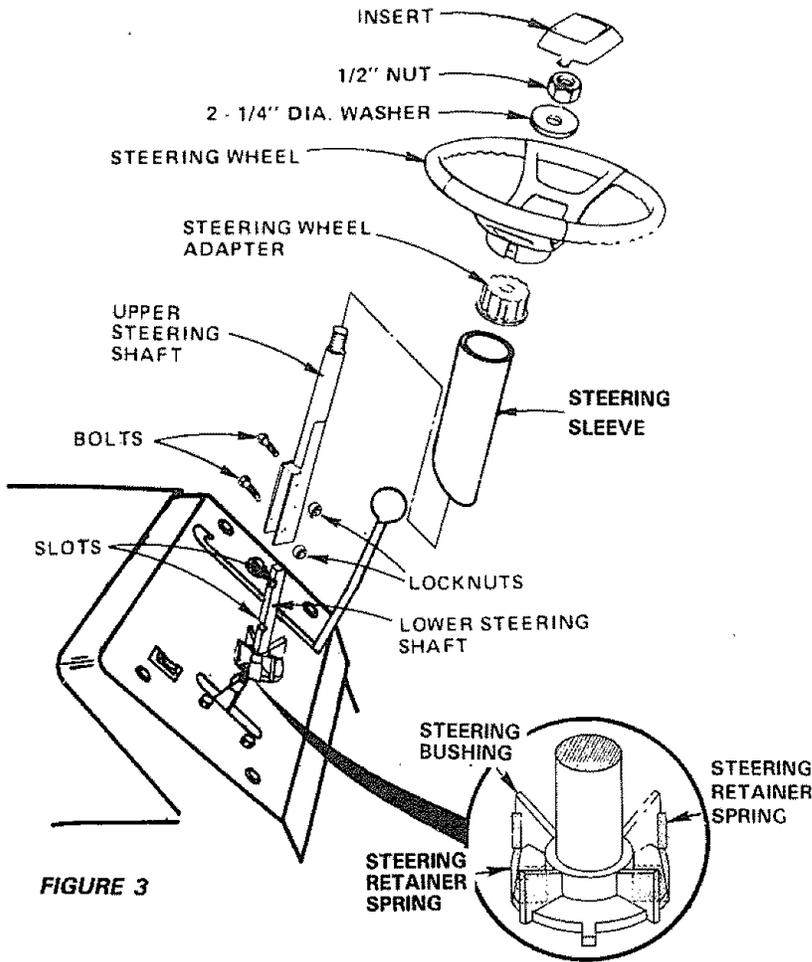

FIGURE 3
- Slide upper steering shaft over lower steering shaft until bolt holes line up with slots in lower steering shaft (Fig 3).